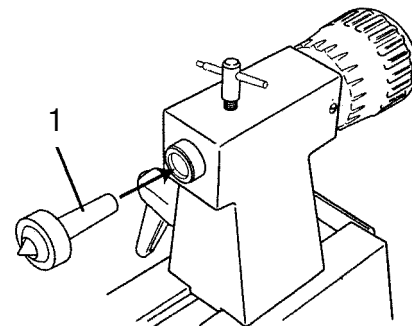

Fig. 6
2. Insert the shaft of the tailstock center into the hollow center to the tailstock spindle. (Fig. 6)